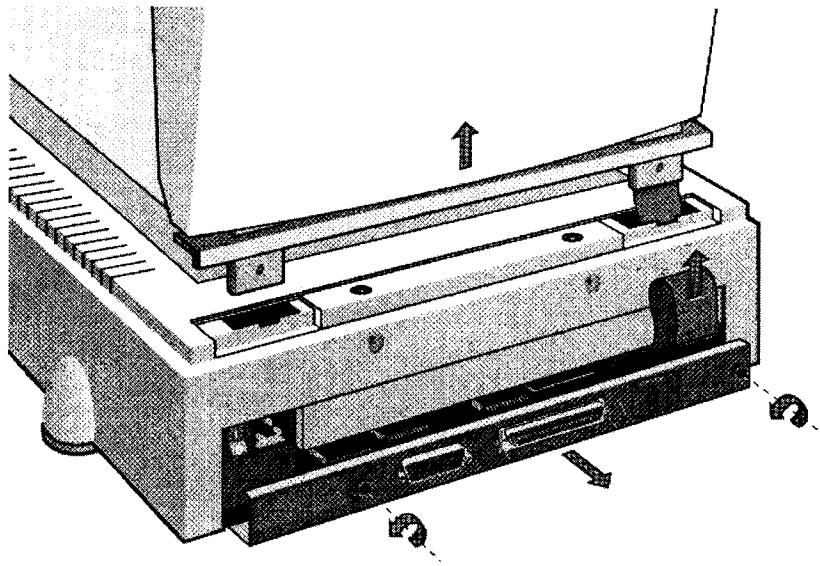

Fig. 5.1
4. Loosen the 2 screws of the main board at the back of the densitometer (Figure 5.1).